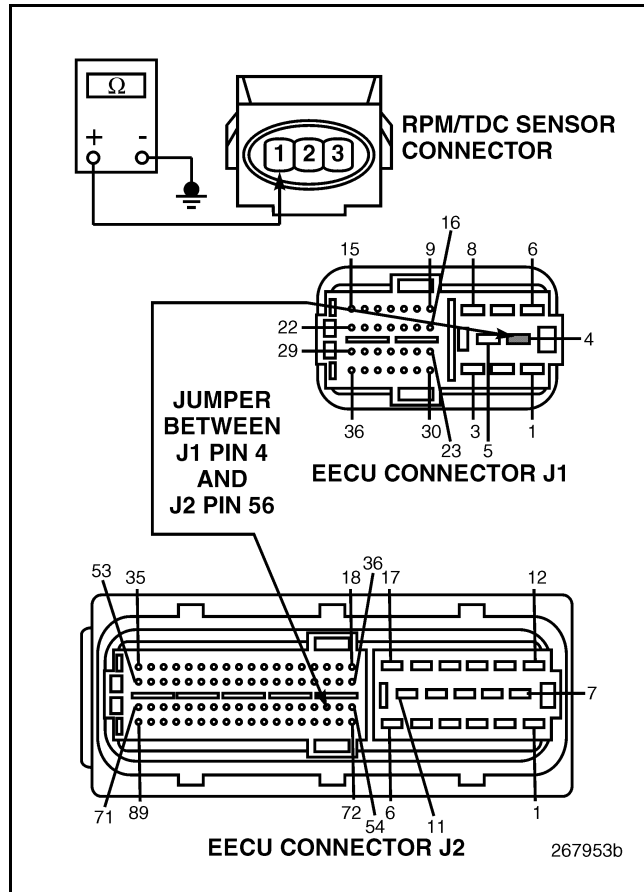

Figure 376
4. Check for continuity between RPM/TDC Sensor harness connector pin 1 and a good ground (see Figure 376).